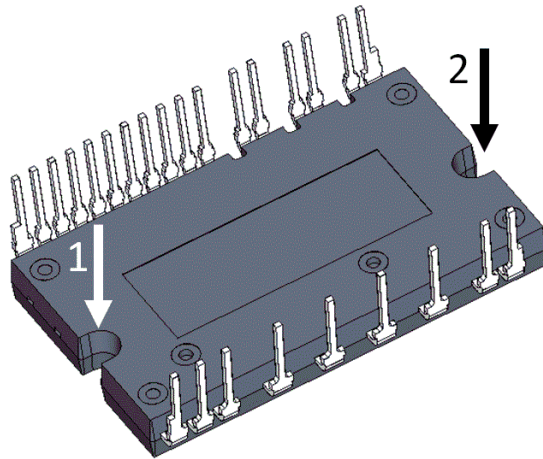

Figure 10. Mounting Screws Torque Order
| Mounting Torque | Mounting Screw: M3 See Figure 10 | Recommended 0.7 N•m | 0.6 | 0.7 | 0.8 | N•m |
- 9. Avoid one side tightening stress. Figure 10 shows the recommended torque order for mounting screws. Uneven mounting can cause the ceramic substrate of the SPM 45 package to be damaged. The pre-screwing torque is set to 20 ~ 30% of maximum torque rating.